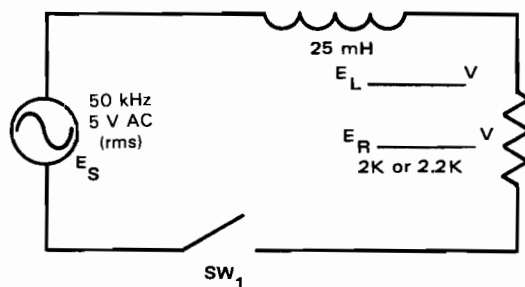

Fig. 9-6-1
1. Construct inductive resistance test circuit shown in Fig. 9-6-1. Note that ac source has a frequency of 50 kHz. This must be obtained from an ac signal generator or function generator.